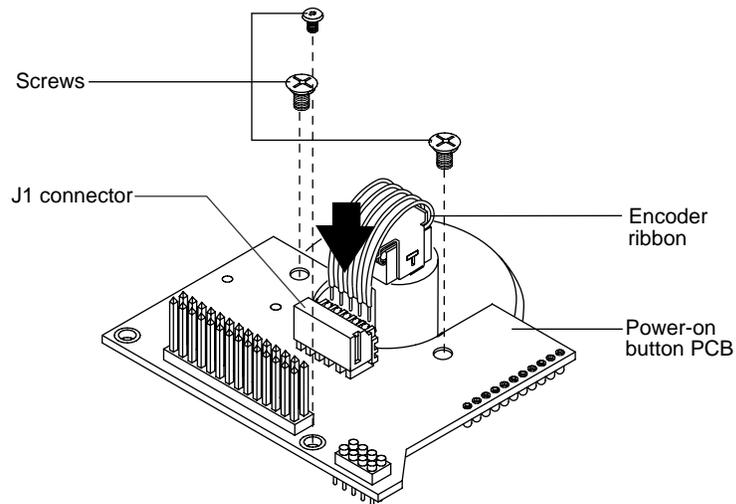

Figure 6-10: Removing Power-On Button PCB
1. Remove the three screws holding the power-on button PCB to the front-panel frame as shown in Figure 6-10.
2. Disconnect the encoder ribbon from the power-on button PCB. Press down on the J1 connector, as illustrated by the black arrow in Figure 6-10, while pulling up on the ribbon.